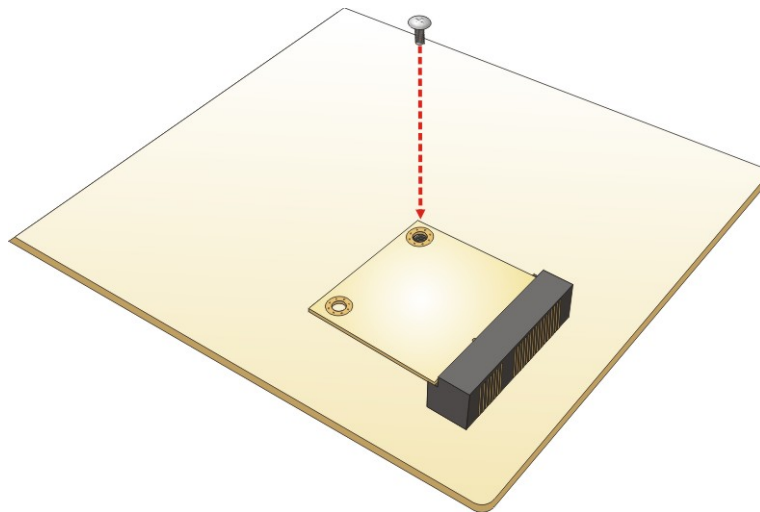

Figure 3-11: Securing the Half-size PCIe Mini Card
Step 5: Secure the half-size PCIe Mini card with the retention screw previously removed (**Figure 3-11**).